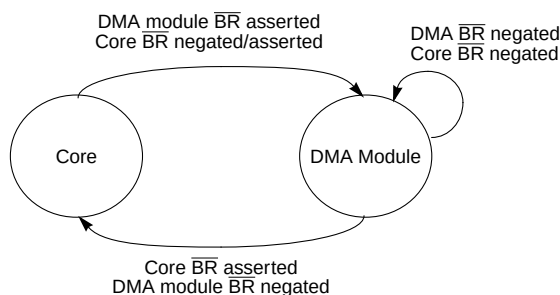

**Figure 6-12. Park on DMA Module Priority (PARK = 10)**
- Park on master DMA priority (PARK = 10)—The DMA module retains bus mastership as long as it needs it. After it negates its internal bus request, the DMA module does not have to rearbitrate for the bus unless the core has requested the bus when it is idle. The core can be granted bus mastership only when the DMA module is not asserting its bus request. See Figure 6-12.